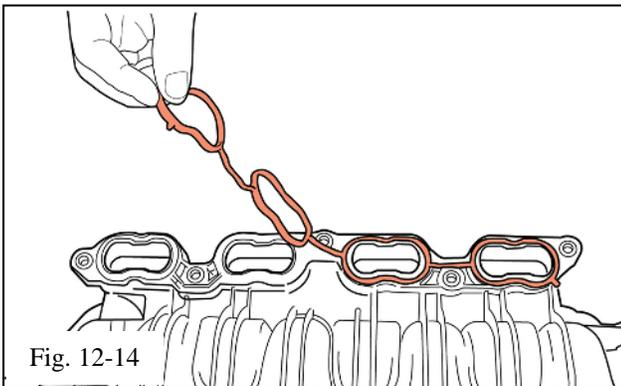

Fig. 12-14
- (s) Carefully remove the gaskets from the bottom of the intake manifold (Fig. 12-14).
- (1) Clean and set them aside as they will be reused in Step 18(a).
- (2) Discard the intake manifold and the remaining attached parts.